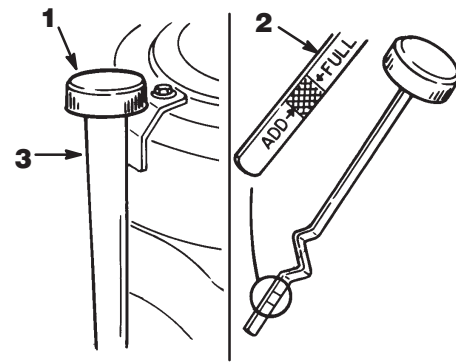

Figure 33
2. Clean around the oil dipstick (Fig. 33) so dirt cannot fall into the filler hole and damage the engine.
3. Unscrew the oil dipstick and wipe the metal end clean (Fig. 33).
4. Slide the oil dipstick fully into the filler tube, do not thread onto tube (Fig. 33). Pull the dipstick out and look at the metal end. If oil level is low, slowly pour only enough oil into the filler tube to raise the level to the full mark.
5. Slowly pour approximately 80% of the specified oil, on page 27, into the filler cap (Fig. 33). Now check the oil level; refer to Checking Oil Level, page 27. Slowly add additional oil to bring it to the full mark.